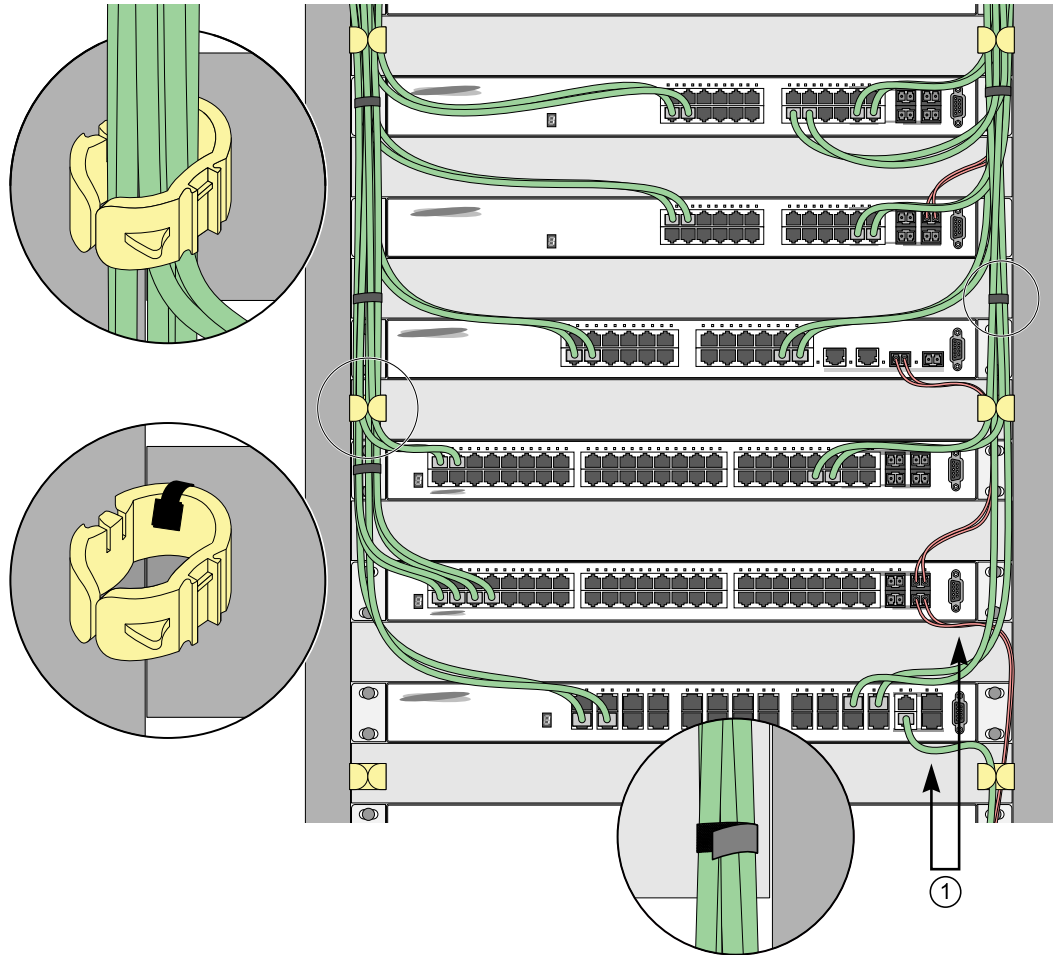

Figure 147: Properly Installed and Bundled Cable
- Provide enough slack, approximately 5 to 7.5 cm (2 to 3 in), to provide proper strain relief as shown in Figure 147 on page 180.
- When installing a patch panel using twisted pair wiring, untwist no more than 2.5 cm (1 in) of the cable to avoid radio frequency (RF) interference.